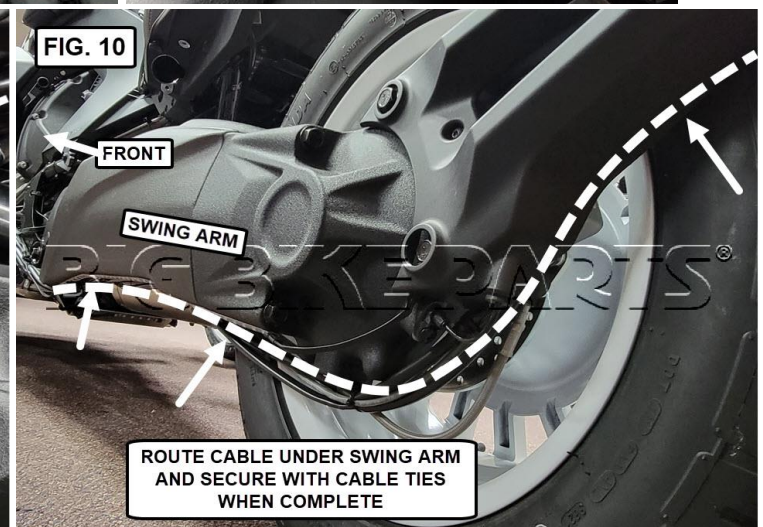

FIG. 11
12. Connect the plugs to the tail light harnesses according to FIG. 11 depending on the orientation of the light shown in both FIG. 12 and FIG. 13.